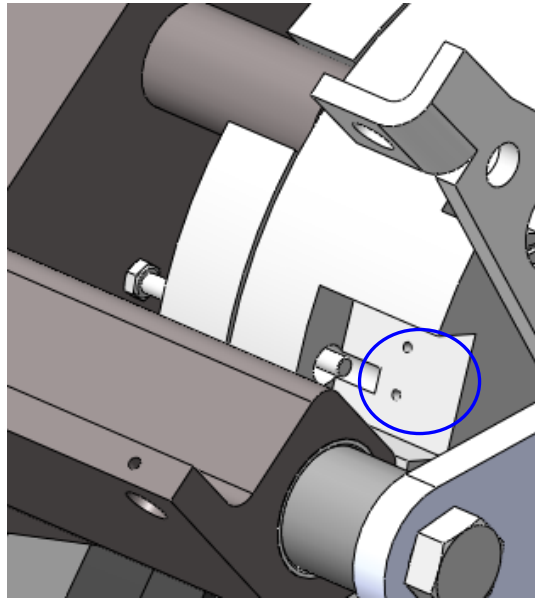

Figure 41: Clean mating surface
1. Clean the brake switch mating surface. See Figure 41.